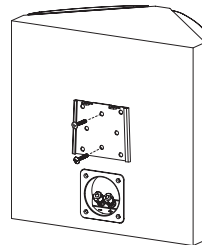

Figure 10
- 3) Using the two supplied 1/4-20 bolts, mount part "A" of the bracket to the back of the speaker by driving the bolts into the threaded insert. Be sure that the bracket is oriented with the two tabs pointing toward the top of the speaker. (See Figure 10)